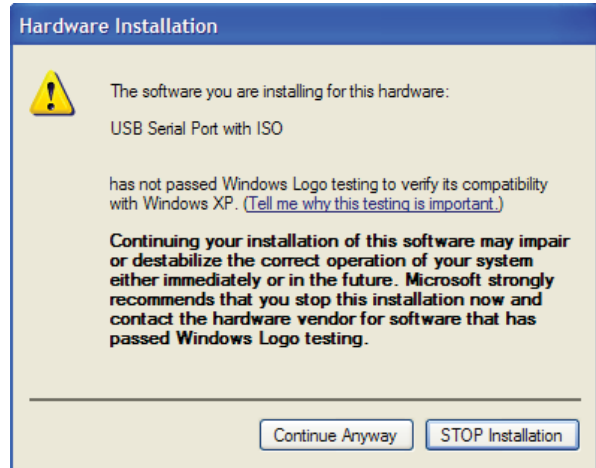

Figure 12. Install USB2UART Hardware
5. The prompt shown in Figure 12 appears, stating that the hardware did not pass the Windows Logo test.